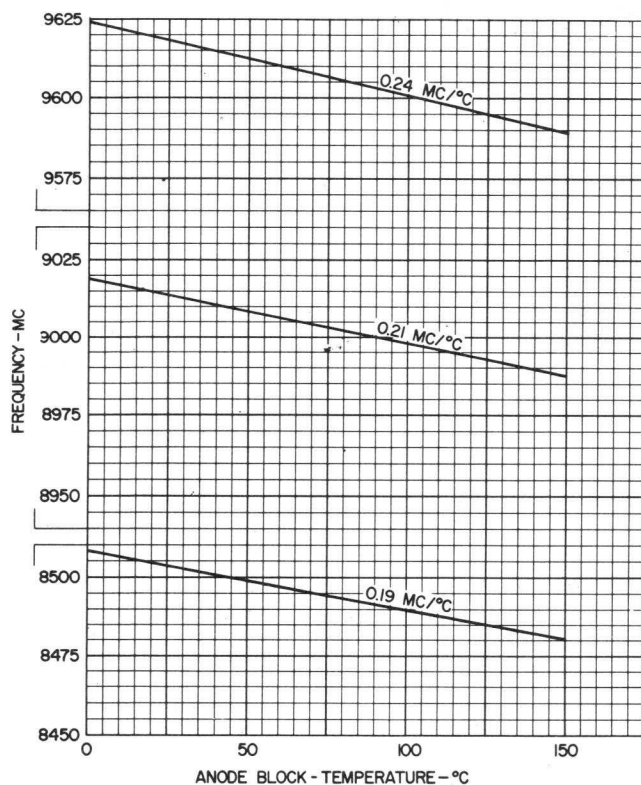

Figure 5—Typical Thermal Factor Characteristic of Sylvania X-Band Tunable Magnetron.
**Thermal Factor**—SYLVANIA high power X-band tunable magnetrons are capable of giving satisfactory performance over a wide range of input power levels. A change in the average power will cause a change in the operating temperature of the magnetron elements, thereby causing a frequency shift. Variations in ambient and/or cooling air temperatures will also effect the frequency of oscillation. The magnitude of this shift is a function of the thermal factor (frequency-temperature coefficient) of the individual tube. A typical thermal factor characteristic is shown in Figure 5. Higher operating frequencies generally result in slightly higher thermal factors with a typical value being about 0.2 MC/°C. If the system requires better frequency stability, this frequency shift can be compensated by automatic frequency-control (AFC) applied to the mechanical tuning shaft.